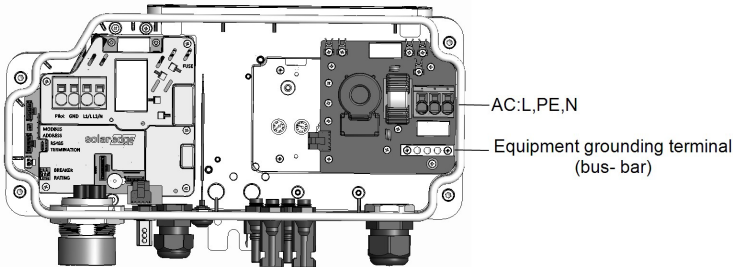

Figure 13: Inside the Connection Unit
4. Insert the grounding cable to the equipment grounding bus-bar (see *Figure 13*).